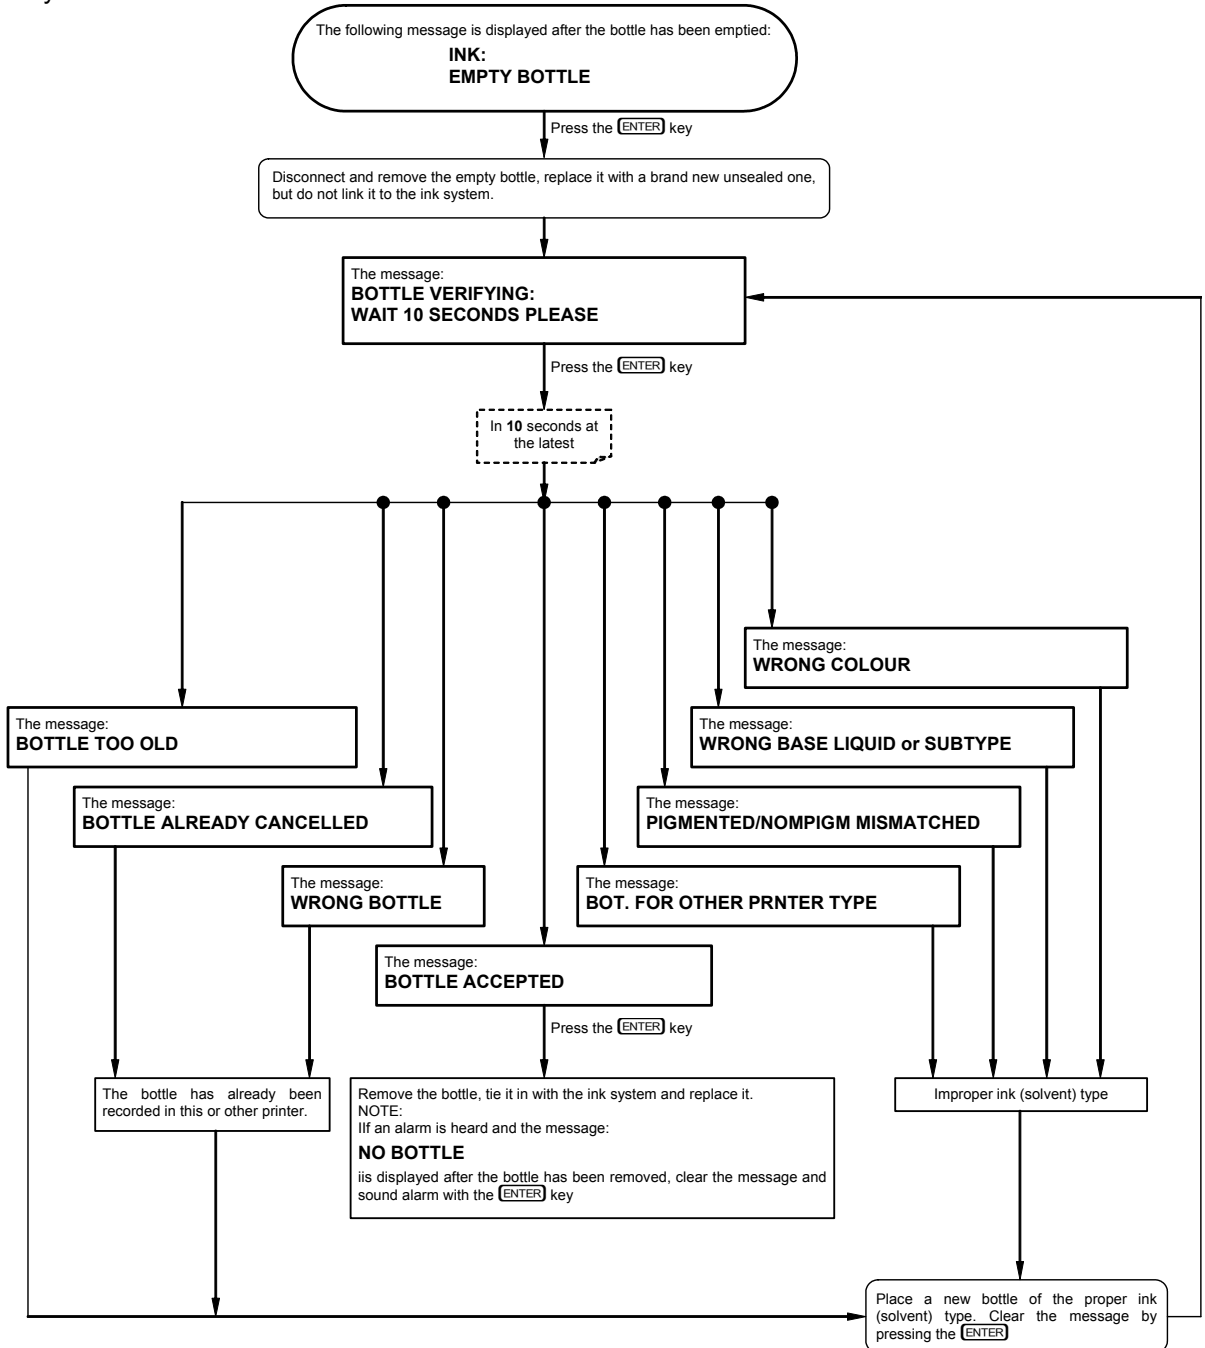

Fig. 4.4.6.4.1.
**Fig. 4.4.6.4.1** relates to the printing system equipped with a compressor system. The position of the transponder seat (and aerial of the Ink Monitoring System) in the case the ink system with an ink pump is used is described in the document entitled *Ink System with an Ink Pump*.